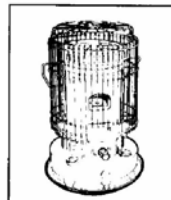

Fig. 11
I) Now your heater is completely assembled.(Fig. 11)